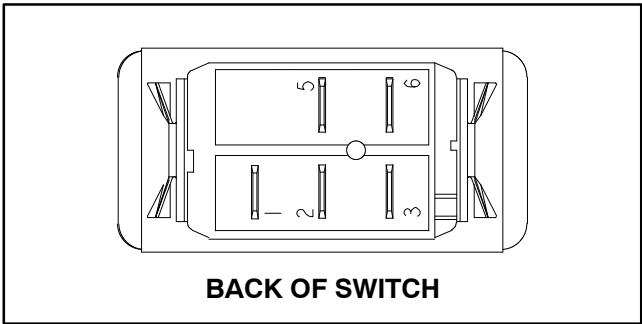

Figure 45
- 4. The windshield washer/wiper switch terminals are identified in Figure 45 and the switch circuits are shown in Figure 46. With the use of a multimeter (ohms setting), the switch functions may be tested to determine whether continuity exists between the various terminals for each switch position. Verify continuity between switch terminals.